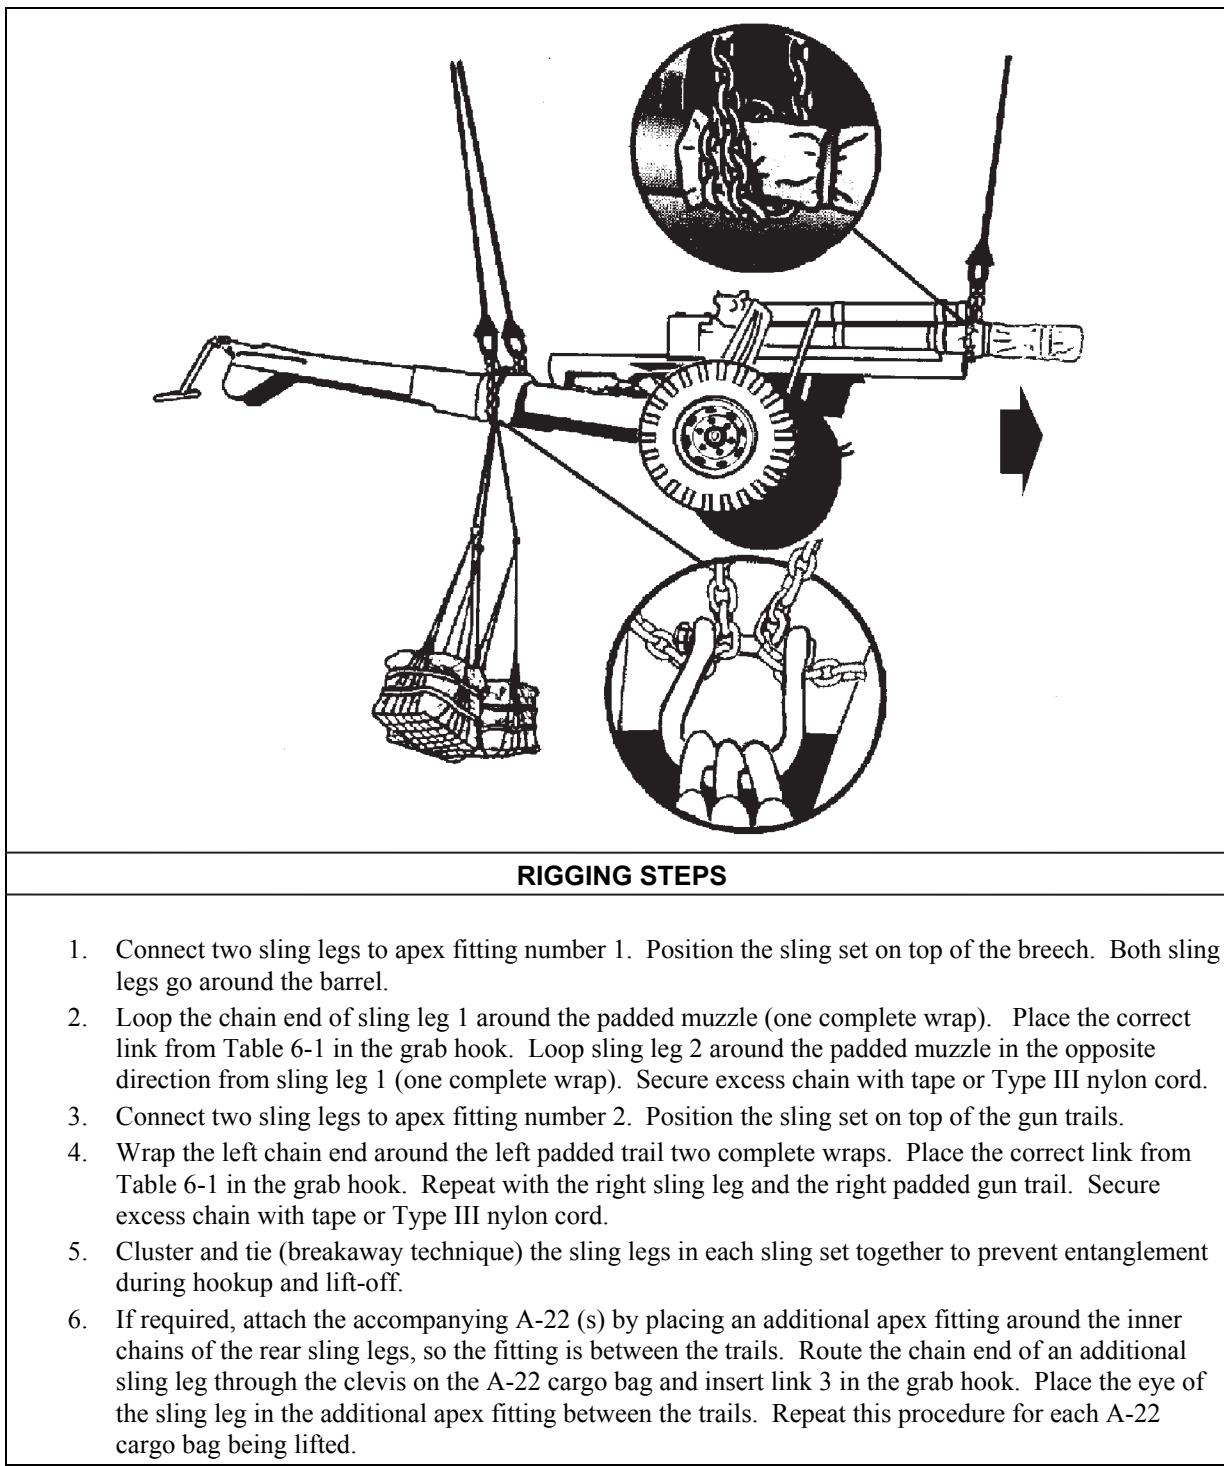

Figure 6-1. M101A1 Howitzer, 105-mm, with or without A-22 Cargo Bags
- **Rigging.** Rig the load according to the steps in Figure 6-1.